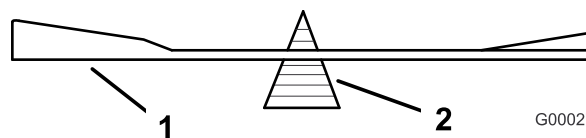
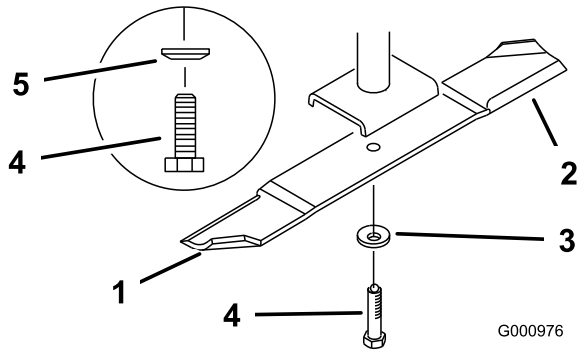

Figure 83
Figure 84
2. Remove the blade bolt, spring disk and blade from the spindle shaft (Figure 84).
2. Check the balance of the blade by putting it on a blade balancer (Figure 83). If the blade stays in a horizontal position, the blade is balanced and can be used. If the blade is not balanced, file some metal off the end of the sail area only (Figure 84). Repeat this procedure until the blade is balanced.
1. Install the blade onto the spindle shaft (Figure 84).
2. Install the spring disk and blade bolt. The spring disk cone must be installed toward the bolt head (Figure 84). Torque the blade bolt to 85-110 ft-lb (115-150 N-m).